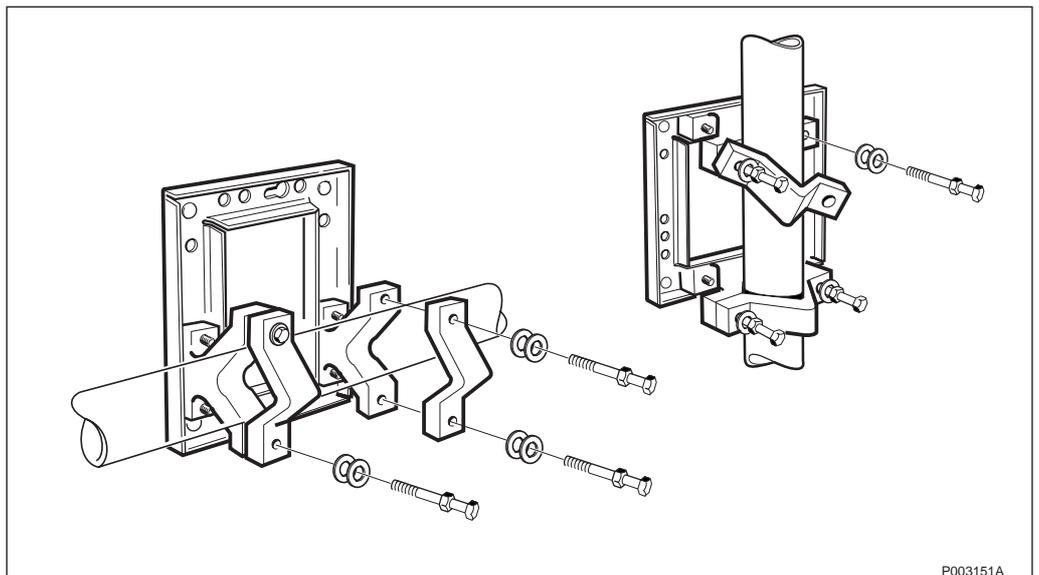

Figure 555 Pole fixture and mounting plate mounted on a tube
**Note:** The Lifting Kit cannot be attached to the mounting fixture when it is mounted on a horizontal tube as shown to the left in *Figure 555 on page 559*. The mounting holes for the lifting kit are blocked by the pole fixture.